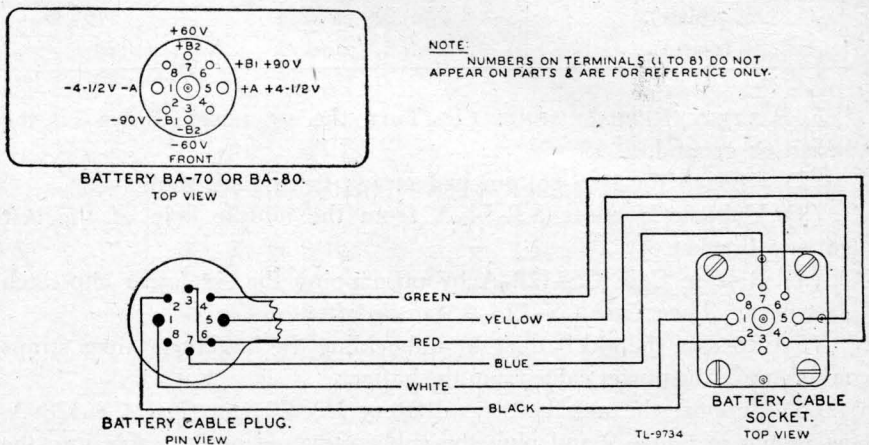

Figure 74. Battery BA-70—top view, and battery wiring diagram.
a. BATTERY CHECKING. Check the battery with a voltmeter and shunt load resistor. Each section of the three-section battery is checked separately using the information in table XIV. The voltmeter and shunt resistor are held across the proper terminals as shown in figure 74 for 15 seconds. Do not test for a longer period.